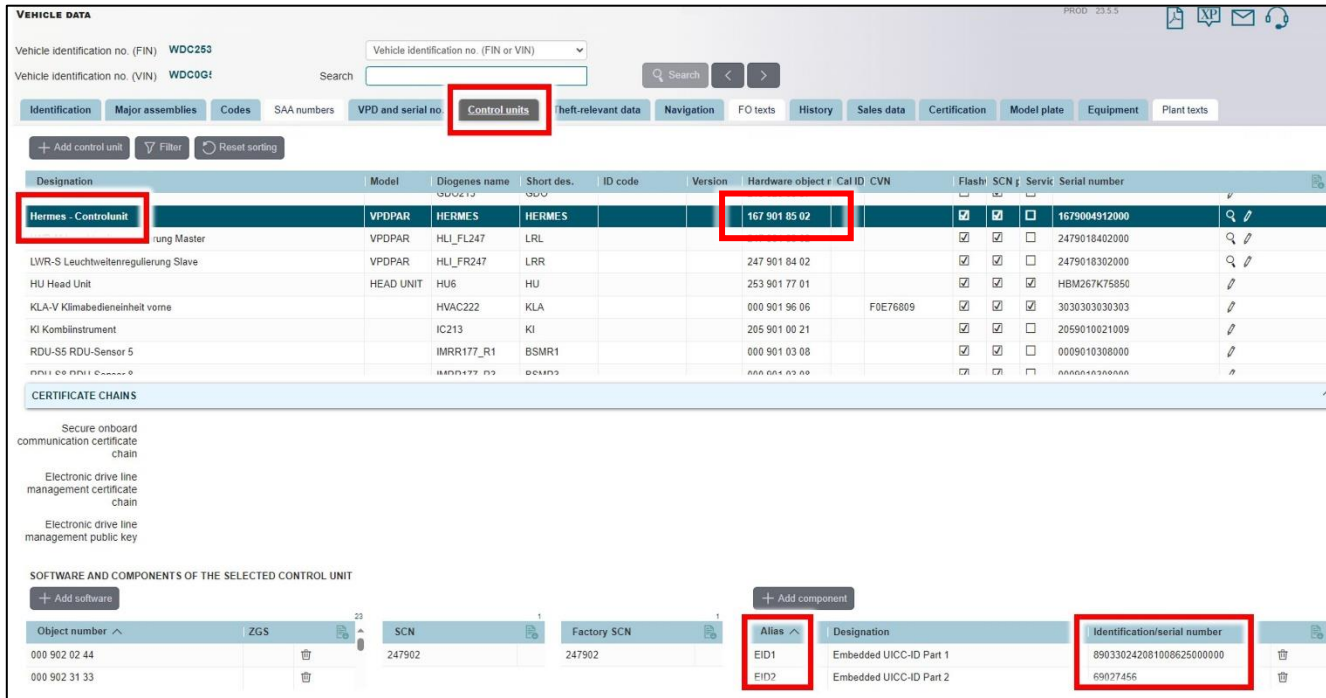

Figure 7**
- o Added note to **Figure 7** for determining installed hardware number.
- i** If two or more software updates or SCN codings are performed during one workshop visit, operation items 02-4762 and 02-5058 may be invoiced **only once for each workshop order**.
i To do this, enter the VIN, "Search", select "Control units", and click on "Hermes - control unit" (Figure 7).
- E.g. shown in Figure 7 – Hardware object number is 167 901 85 02